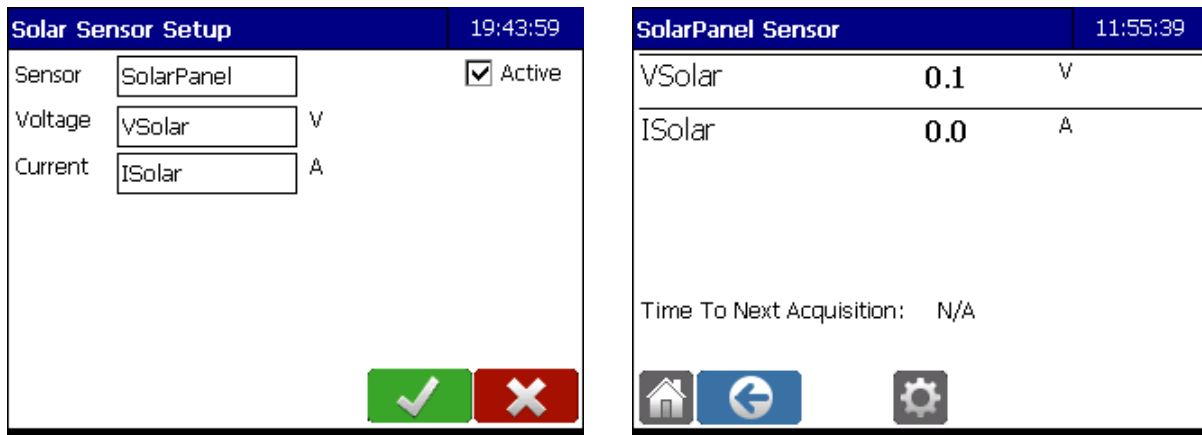

Figure 5-10
The **Solar Sensor Setup** screen shows measurable parameters for the solar panel. Measurable parameters are the solar panel voltage and current. The default sensor names are shown in Figure 5-10. Voltage is reported in volts (V) and Current in Amperes (A). The value reported in solar panel voltage and solar panel current is an average value from the last 10 seconds.